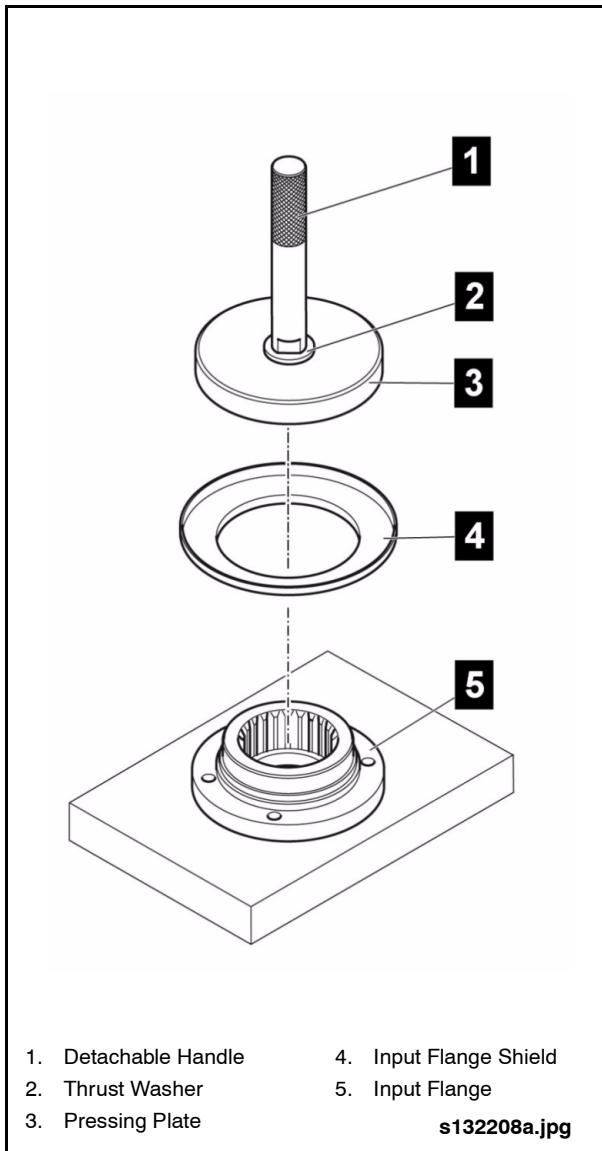

Fig. 2-37: Installing Input Flange Shield
2. Press the new shield onto the input flange as far as possible. See "Fig. 2-37: Installing Input Flange Shield" on page 35.